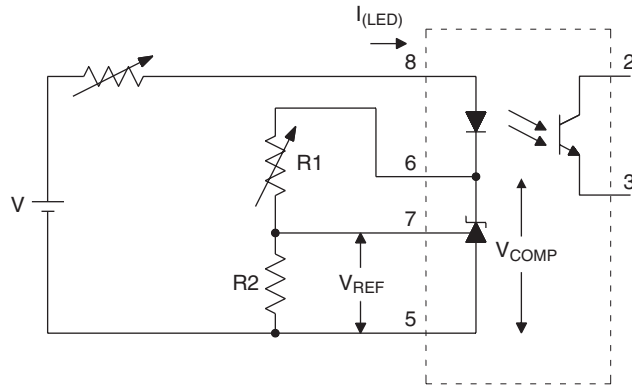

FIG. 2. $\Delta V_{REF}/\Delta V_{COMP}$ TEST CIRCUIT
| Ratio of Vref variation to the output of the error amplifier | ($I_{LED} = 10 \text{ mA}$, $V_{COMP} = V_{REF}$ to 12 V) (Fig.2) | $\frac{\Delta V_{REF}}{\Delta V_{COMP}}$ | | -1.5 | -2.7 | mV/V |
2. The dynamic impedance is defined as $|Z_{OUT}| = \Delta V_{COMP}/\Delta I_{LED}$. When the device is operating with two external resistors (see Figure 2), the total dynamic impedance of the circuit is given by: